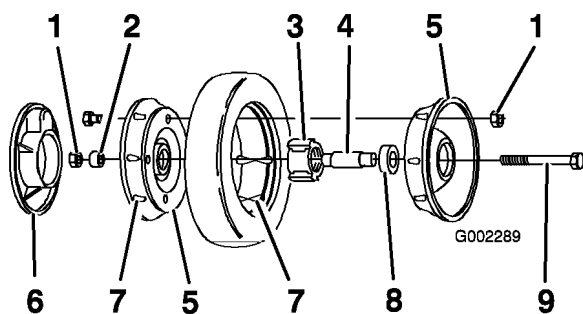

Figure 26
- Remove the bolt, the wheel spacer, and the locknut mounting the wheel to the pivot arm (Figure 26).
- Separate the wheel halves from the tire by removing 4 bolts and 4 locknuts (Figure 26).
Note: If you remove the bearings from the bearing/hub assembly, remove them by pressing on the bearing spacer (Figure 26).
- Position the tire onto one wheel half, aligning the lugs on each (Figure 26).
- Place the bearing/hub assembly into the center hole of the wheel half. Ensure that the legs of the hub are positioned over the flange of the hole (Figure 26).
- Place the other wheel half onto the bearing/hub assembly, aligning the wheel and the tire lugs and the mounting holes (Figure 26).
- Using 2 fully threaded screws or bolts (1/4-20 x 1.50 inch) and non-locking nuts, loosely secure the wheel halves together. Mount the screws or bolts in the opposing holes (Figure 26).
- Check the alignment of all parts and tighten the screws, alternating from side to side for a uniform fit, until the wheel halves are drawn together (Figure 26).
or bolts and replace them with 2 bolts and 2 locknuts (Figure 26).
- Install the wheel to the pivot arm with the bolts, a spacer, and a locknut. Ensure that the spacer is positioned between the wheel hub and the pivot arm (Figure 26).